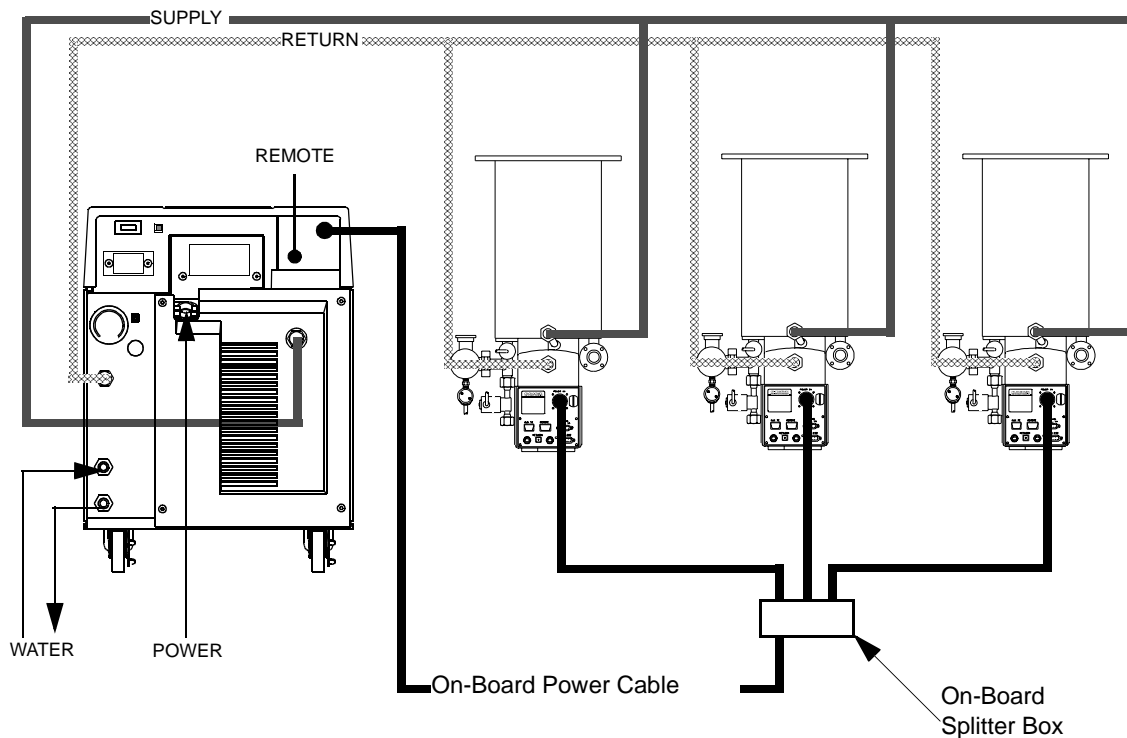
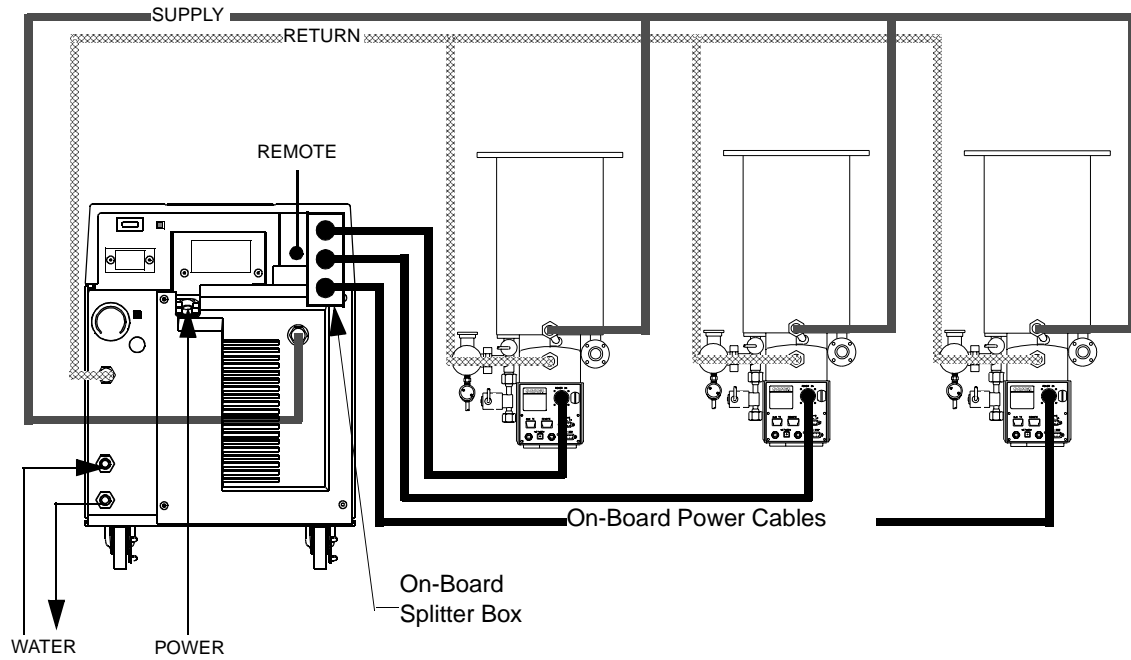

Figure 3-6: Recommended Multiple On-Board Cryopump or Waterpump Installation (Splitter Box located at Process Tool)
Figure 3-7: Alternative Multiple On-Board Cryopump or Waterpump Installation (Splitter Box located at Compressor)
1. Connect the On-Board Splitter Box power cable between the CRYOPUMP ELECTRICAL OUTLET on the rear panel of the Compressor and the On-Board Splitter Box power connector as shown in Figure 3-6.
2. Connect the On-Board Cryopump or Waterpump power cables to the CRYOPUMP 1, 2, or 3 connectors on the On-Board Splitter Box and the respective cryopumps as shown in Figure 3-6.
NOTE: The On-Board Splitter Box can be installed at the process tool containing the pumps as shown in Figure 3-6, or on the rear of the Compressor as shown in Figure 3-7. CTI-CRYOGENICS recommends that the On-Board Splitter box be installed near the process tool to reduce cable requirements.